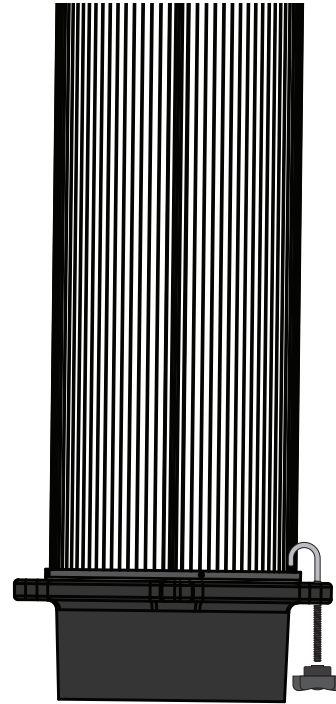

FIG. 14
Attach the Fine Dust Bin (I4) to the Filter (H) with four J-Bolts (I5A) and four Thumb Nuts (I5B) as in [FIG. 14].